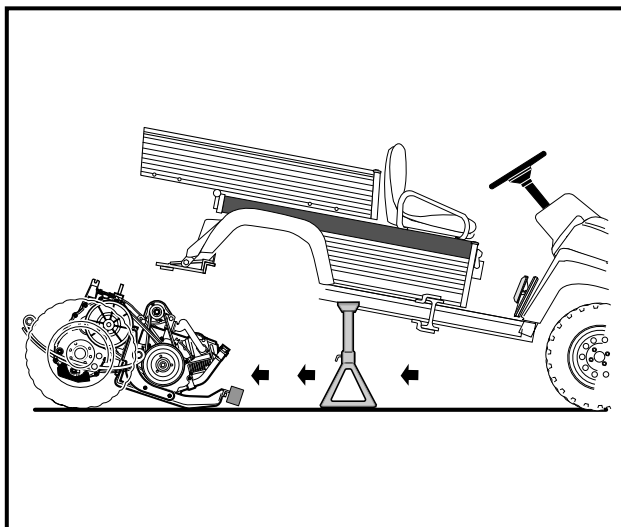

Figure 16b-33 Remove Powertrain
15. Grasp the ends of the leaf springs at the rear of the vehicle and roll the powertrain out from under the vehicle (**Figure 16b-33, Page 16b-16**).